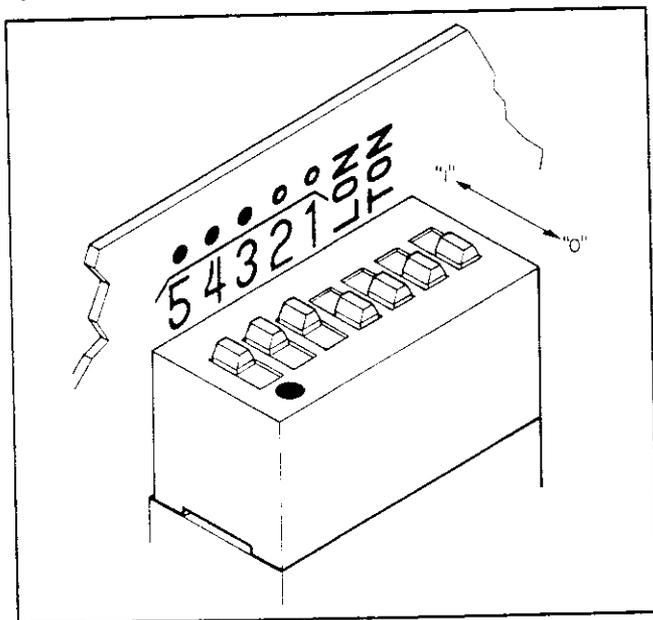

Figure 2-3. The HP-IB Address Switch Shown as Set by the Factory. The Address Shown is 11100 in Binary with Both Talk Only and Listen Only Off.
- e. Use a pencil to set the switches to the desired HP-IB address and Talk Only (TON) or Listen Only (LON) condition. The switch is illustrated in Figure 2-3. Facing the board, the left hand switch marked with a "5" is the most significant address